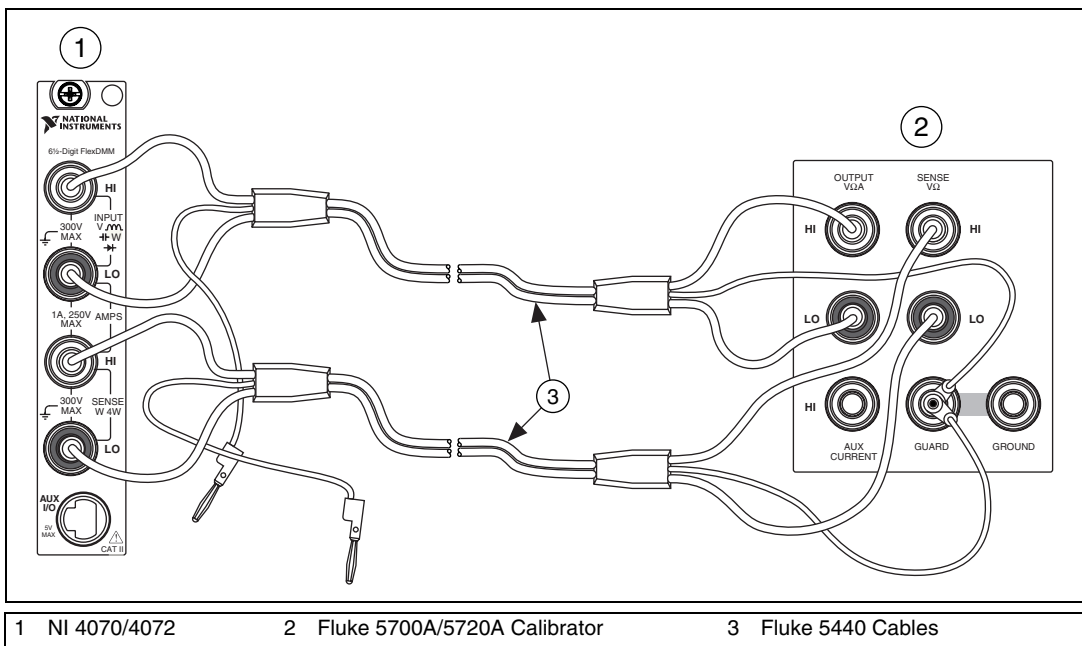

Figure 2. Cable Connections for 4-Wire Resistance
2. Fasten the connectors on one end of each Fluke 5440 cable to the appropriate banana plug connectors on the NI 4070/4072. Fasten the connectors on the other end of each Fluke 5440 cable to the appropriate calibrator binding posts. Figure 2 shows the Fluke 5440 cables. Table 7 lists the cable connections.